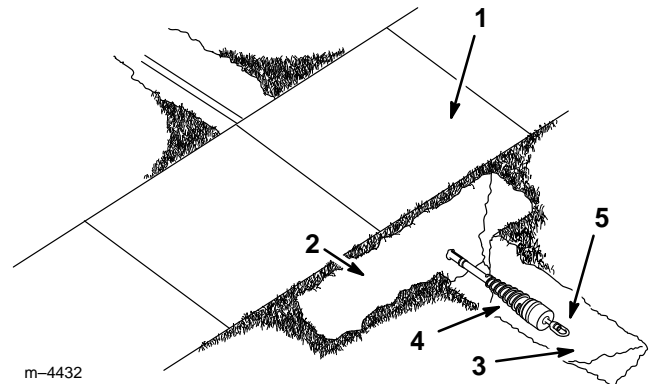

Figure 7
15. With a shovel, carefully dig around the boring bit clearing it of soil until it can be removed (Fig. 7).
16. Remove the boring bit and attach the reamer (Fig. 7).
17. Attach the cable or piping being installed to the swivel on the end of the reamer (Fig. 7).